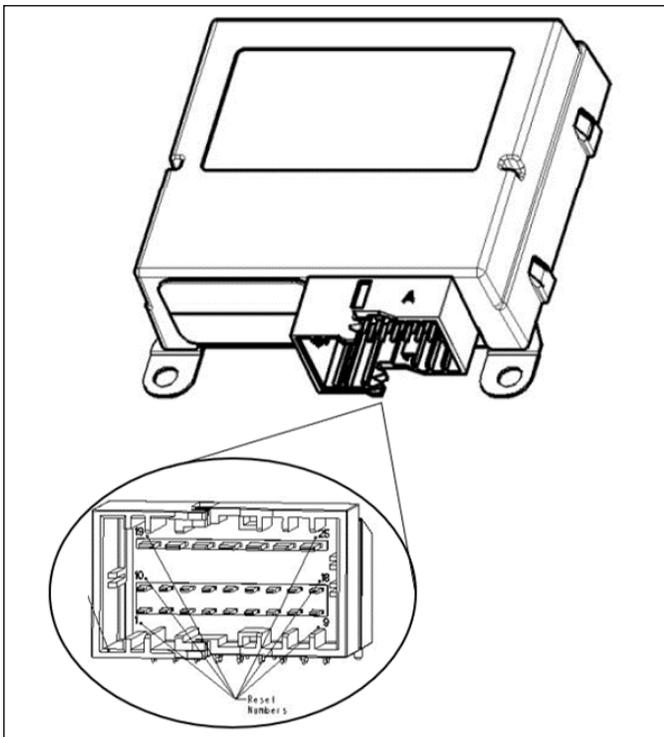

Figure 12 – Steering Assist ECU Connector Pins
See Figure 12 and refer to Table 3 for the connector pins for the Steering Assist Electronic Control Unit (ECU).
1. Align the gasket and pressure sensor with the half circle cut-out in each part. See Figure 12.
2. Align the pressure sensor and gasket on the bearing cap. See Figure 12.
3. Hand start and torque the front right and back left pressure sensor bolts to 13-16 ft-lb (17.6-21.7 N•m) with the 5-mm hex (Allen®) bit. See Figure 12.